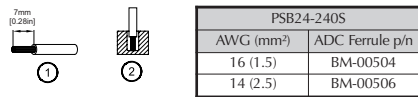

Figure 5
You can use flexible (stranded wire) or solid wire with cross section 1.3-2.1 mm² (AWG 16-14) and torque of 0.46Nm (4.05lb in). To secure reliable and shock proof connections, the stripping length should be 7 mm [0.28 in] (see Fig. 5 (1)). Please ensure that wires are fully inserted into the connecting terminals as shown in Fig. 5 (2).